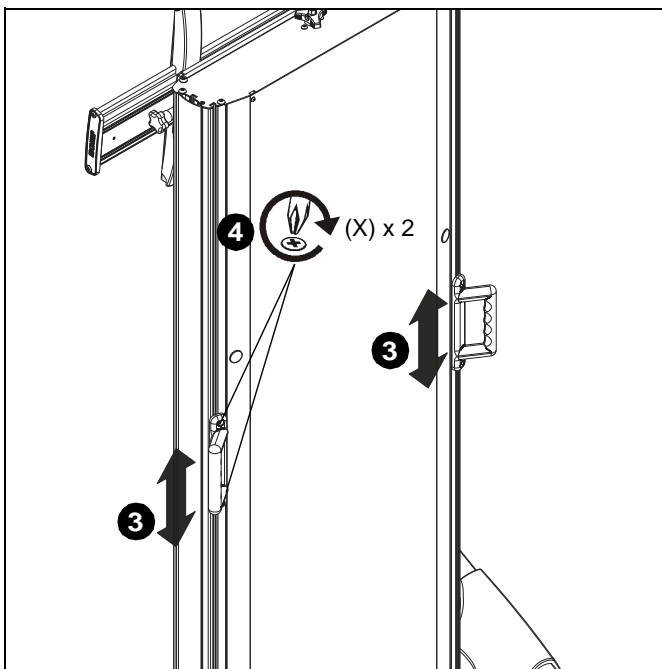

Figure 13
3. Adjust handles to desired height. (See Figure 13)
4. Tighten two screws on each handle to lock handles at desired positions. (See Figure 13)